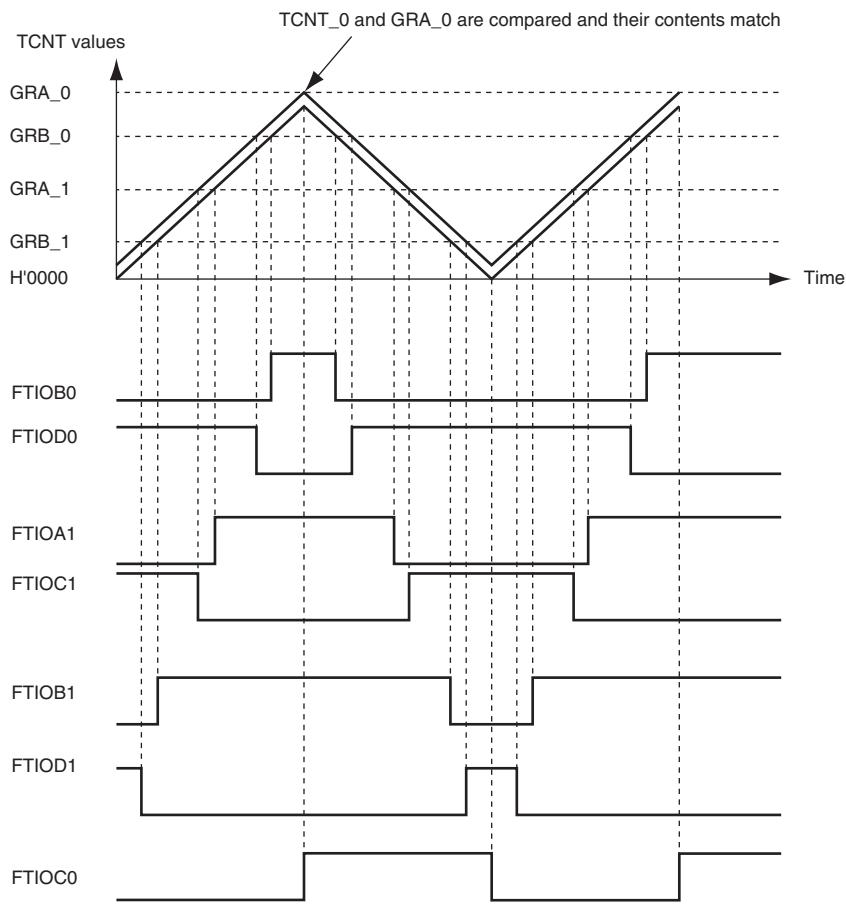

Figure 12.31 Example of Complementary PWM Mode Operation (1)
2. Examples of Complementary PWM Mode Operation: Figure 12.31 shows an example of complementary PWM mode operation. In complementary PWM mode, TCNT\_0 and TCNT\_1 perform an increment or decrement operation. When TCNT\_0 and GRA\_0 are compared and their contents match, the counter is decremented, and when TCNT\_1 underflows, the counter is incremented. In GRA\_0, GRA\_1, and GRB\_1, compare match is carried out in the order of TCNT\_0 → TCNT\_1 → TCNT\_1 → TCNT\_0 and PWM waveform is output, during one cycle of a up/down counter. In this mode, the initial setting will be TCNT\_0 > TCNT\_1.